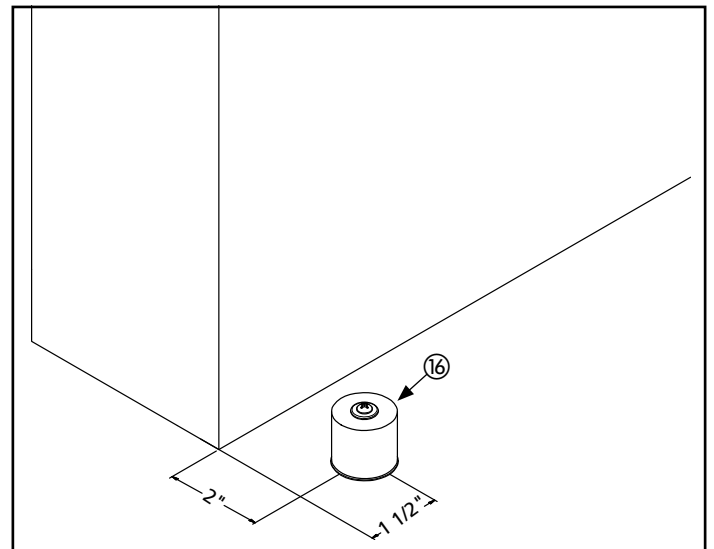

Figure 20. Location of the floor guide
2. Using a pencil, mark 2" away from the wall and 1 1/2" in from the interior edge of the opening, reference figure 20.